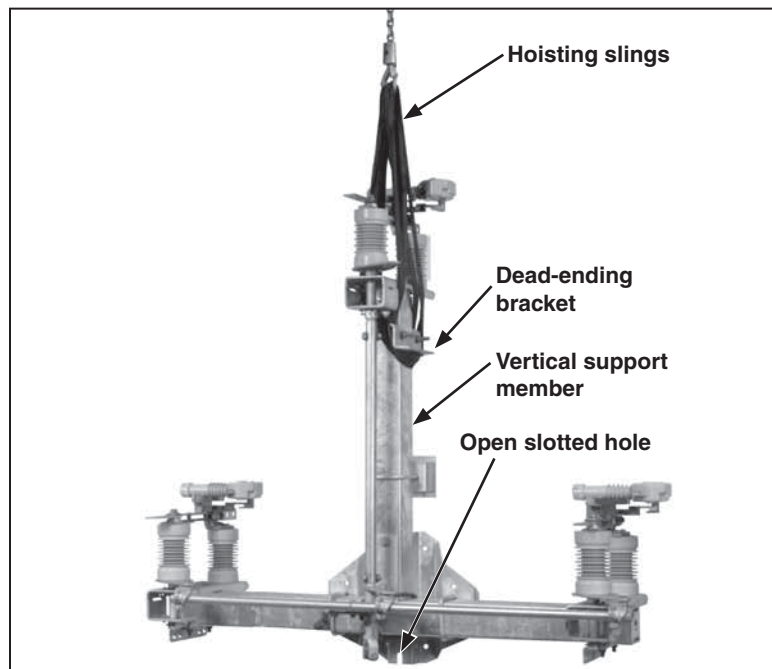

Figure 2. Hoisting Omni-Rupter switch into position for triangular mounting configuration.
- Lift switch as shown in Figure 2 until the lifting slings are just taut.